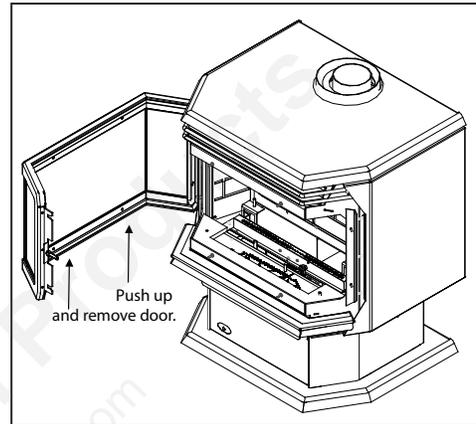

Figure 5: Removing the Door.
3. If the door must be removed open the door and lift the door pins out of the hinges (see figure 5).